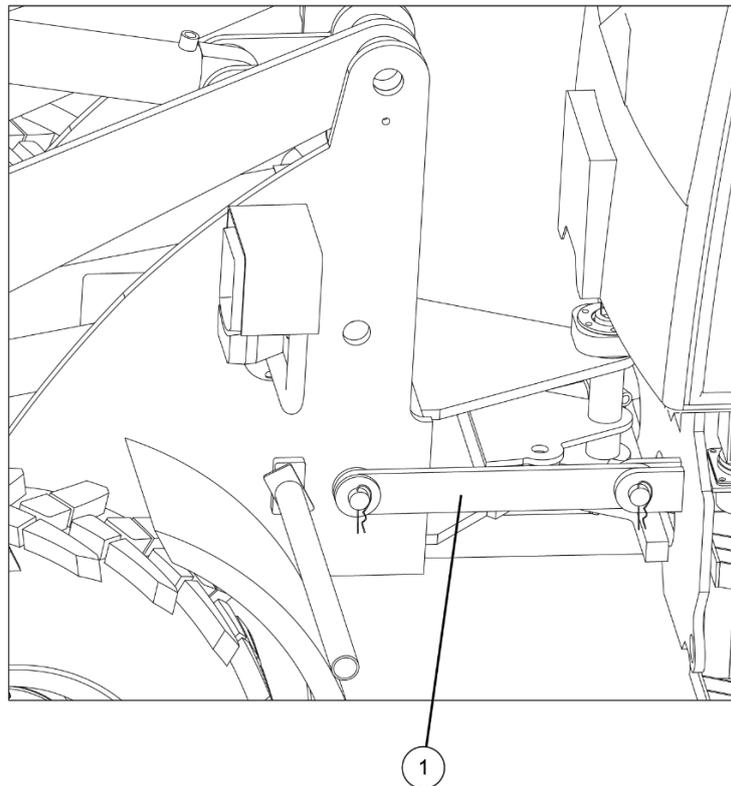
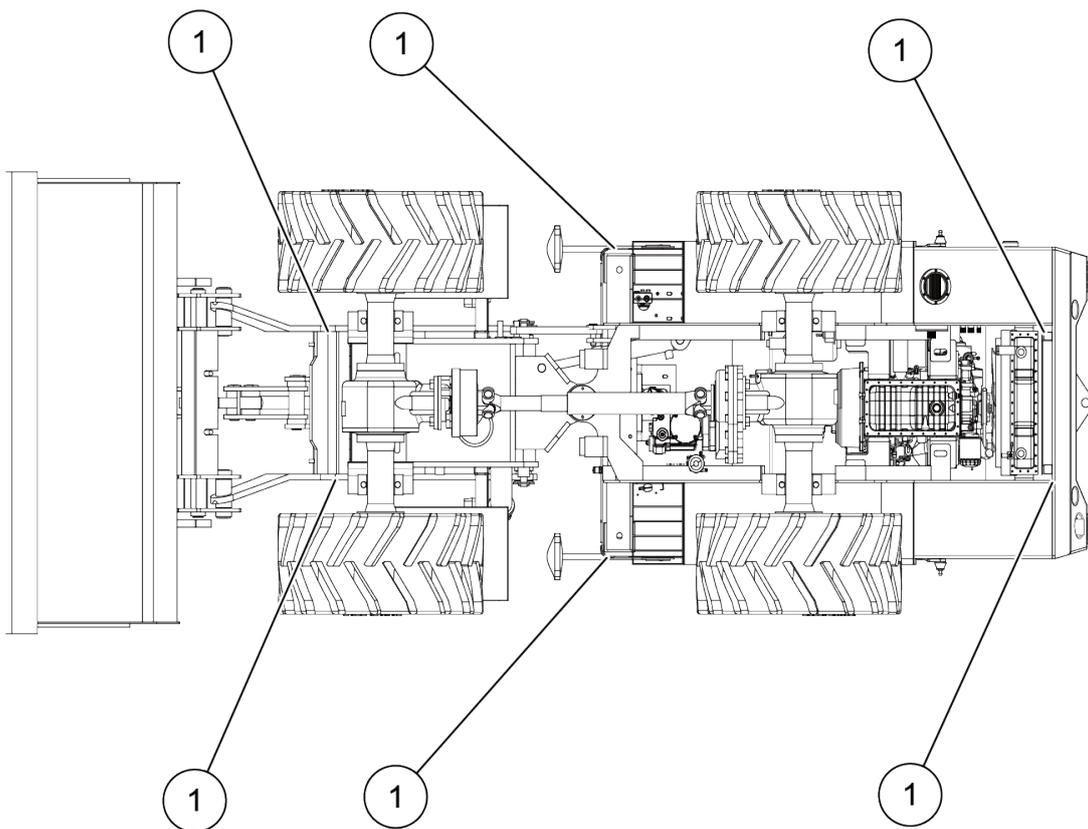

Figure 3-9 Locking frame
Figure 3-10 Layout of lifting points
7) After loading, use frame lock plate (1) to lock front and rear frames, as shown in Figure 3-9. Fix the tire of loader with stop, and tie loader rope tightly through the specified lifting lugs. The position of lifting lugs is shown in Figure 3-10.
When lifting the loader, the specified lifting points on the front and rear frames should be used for lifting. The lifting points of the loader are shown in Figure 3-10.